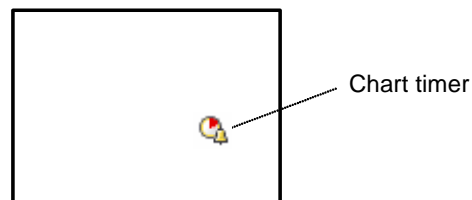

Figure 111. Chart timer
2. Click the place on the diagram where you want to place the chart timer. A chart timer appears, displayed as an icon, see Figure 111.